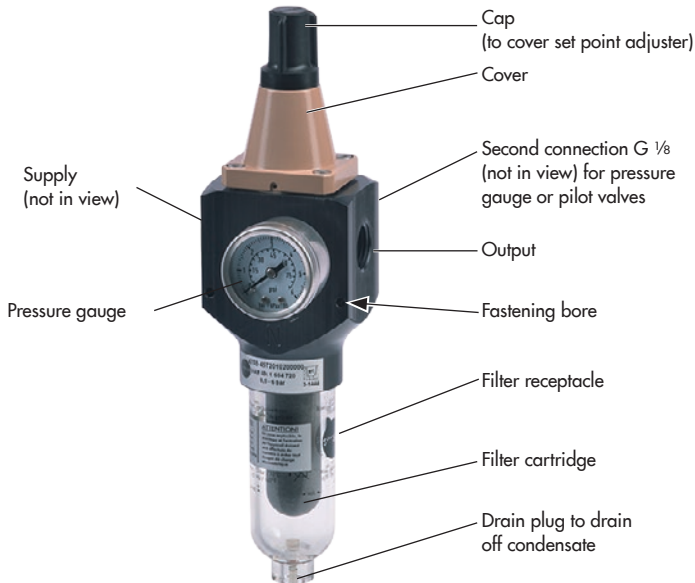

Fig. 1: Components of Type 4708-45 Supply Pressure Regulator (aluminum version)
The air connections (supply and output, see Fig. 1 on page 6) are designed either with ISO-228/1 - G ½ or ½-14 NPT threads.
- See Fig. 1 on page 6.